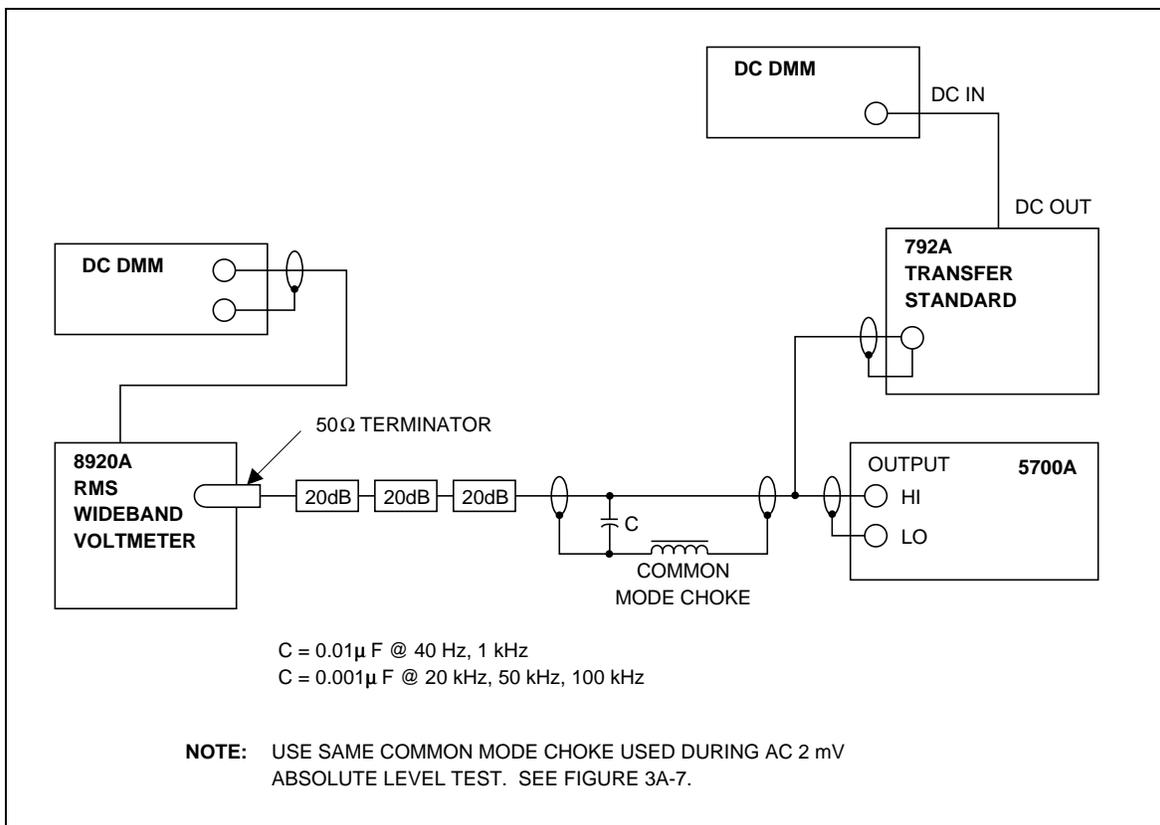

Figure 3A-18. AC 2 mV Flatness Test Setup
Common-Mode Choke	(Construction details in Figure 3A-8.)
1. Set up the equipment as shown in Figure 3A-18. Use three 20 dB attenuators in series and a 0.01 μF capacitor across the input of the rms wideband voltmeter.